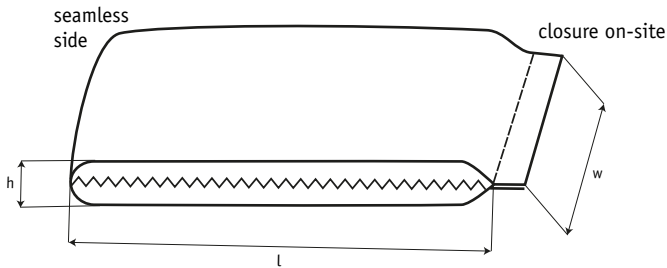

Fig. 8 Approximate geometry of a filled GSC Secutex® Soft Rock
19.3 The filled GSC Secutex® Soft Rock shape can be described as a well-filled cushion or pillow with an approximate geometry as exemplarily documented for the product Secutex® Soft Rock in Figure 8. Depending on diverse influences on-site these dimensions can vary and are not the responsibility of the manufacturer.